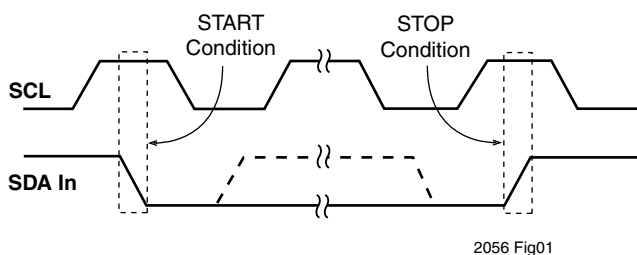
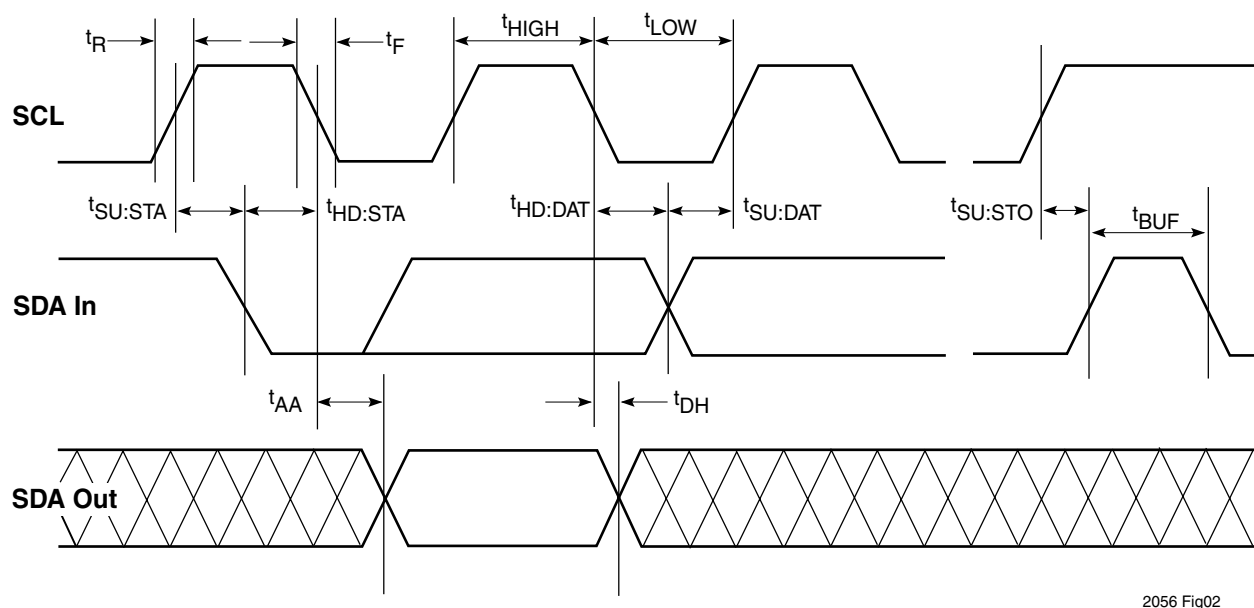

Figure 3. START and STOP Timing
Figure 4. I2C Data/Clock Timing
Note (1) These values are guaranteed by design. Refer to the timing diagram in Figure 4.
Data transfers are initiated when a Master issues a Start condition, which is a high to low transition on SDA while SCL is high (see Figure 3). The Start is immediately followed by an eight bit transmission: bits 7 through 1 comprise the device type identifier and device bus address; bit 0 is the Read/Write bit indicating the action to follow. If the intended device receives the byte and recognizes its address it will return an Acknowledge during the 9th clock cycle. Some data transfers will be concluded with a Stop condition, which is a low to high transition on SDA while SCL is high. Note: a Stop condition must be performed for all nonvolatile Write operations. Timing for all I2C operations are summarized in Figure 4 and Table 1.